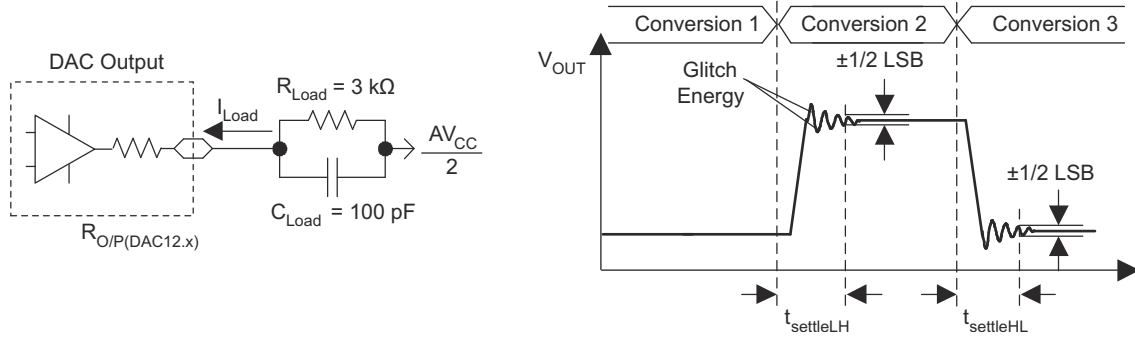

图 8-45. Settling Time and Glitch Energy Testing
(1) R_{Load} and C_{Load} are connected to AV_{SS} (not AV_{CC}/2) in 图 8-45.
(2) Slew rate applies to output voltage steps ≥ 200 mV.